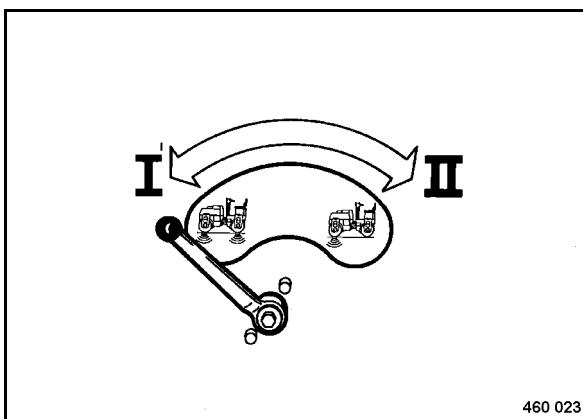

Fig. 55
- Pre-select the desired drum or drums with the ball valve (Fig. 55).